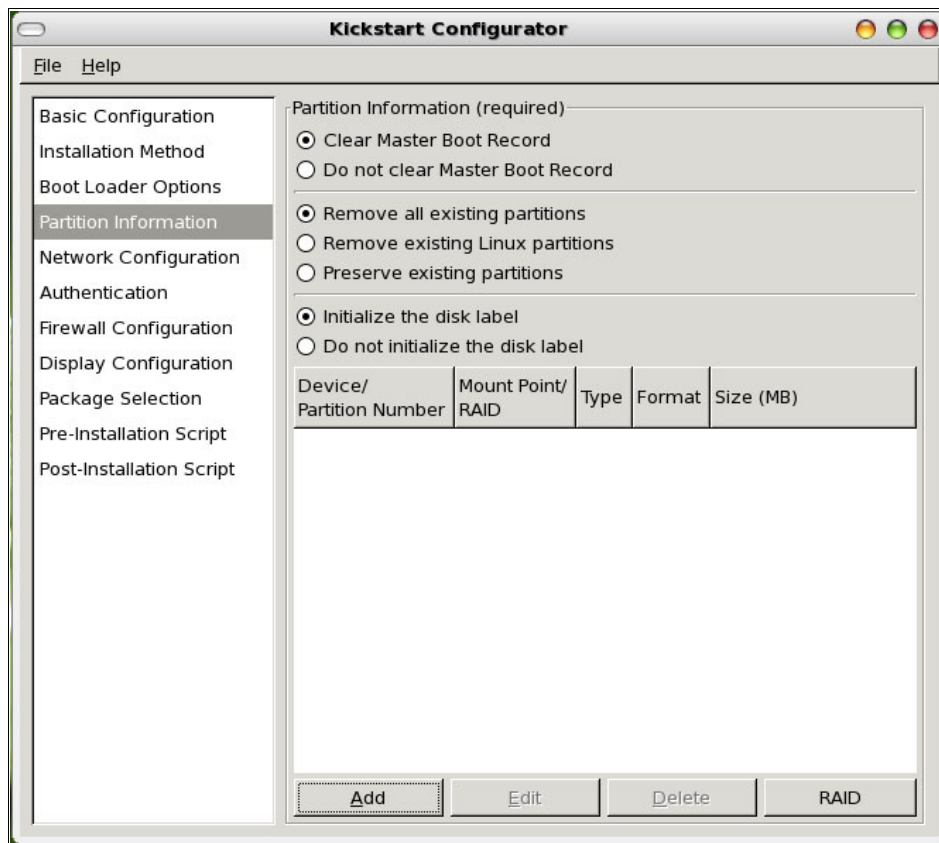

Figure 0-3 Partition Information panel (©2008 Red Hat, Inc.)
4. The next editable panel is the Partition Information panel, shown in Figure 0-3. Press **Add** to create a partition. The tool will help you select the mount point, file system type, and partition size.